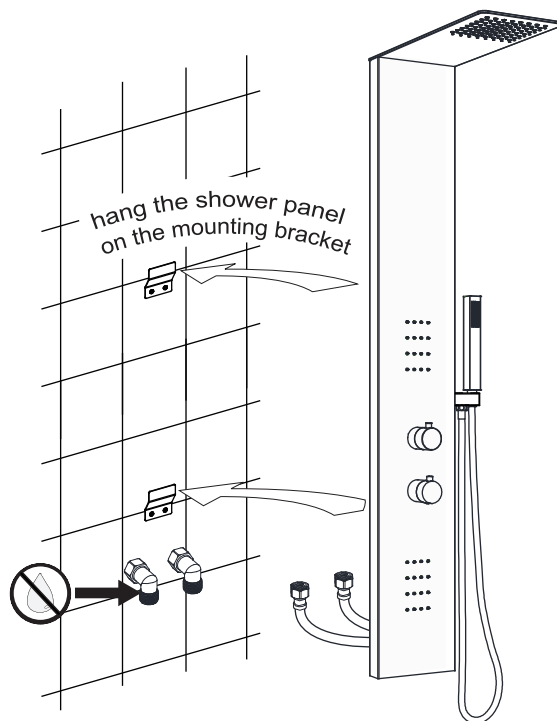

Fig 6.2
- 6-2** Connect the Hoses labeled with "Hot" or "Cold" to the **Elbow Fittings [17]**, then tighten the nuts of the hoses. **DO NOT OVER TIGHTEN!** (Fig 6.2)
- 6-3** Before hanging the shower panel onto the wall, turn on the faucet and test all water functions of the shower panel and check all connections for leaks. Retighten if necessary, but do not overtighten. (Fig 6.2)
- 6-4** Slide the shower panel down until it rests on the mounting brackets. Slightly pull down the shower panel to secure. (Fig 6.2, Fig 6.3)